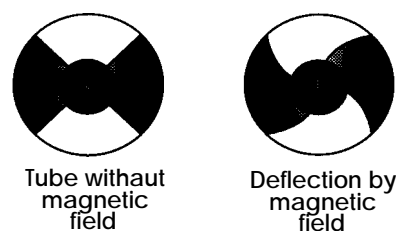

figure 2
The electron path is observed to curve when the valve is placed in the uniform magnetic field from a solenoid. (See figure 2).
In order to measure the radius of curvature (R) use a cork borer as a template. Select a large cork borer and, looking through the borer to the top of the valve, adjust the current flowing through the wire loop so that the electron path exactly fits the curvature of the selected cork borer. Measure the diameter of the cork borer with the vernier callipers and calculate the radius of curvature of the electron path. Figure 2 shows the top view of the valve when the magnetic field is turned off and when it is turned on. See *the PSSC Lab Manual page 79 for further details*.